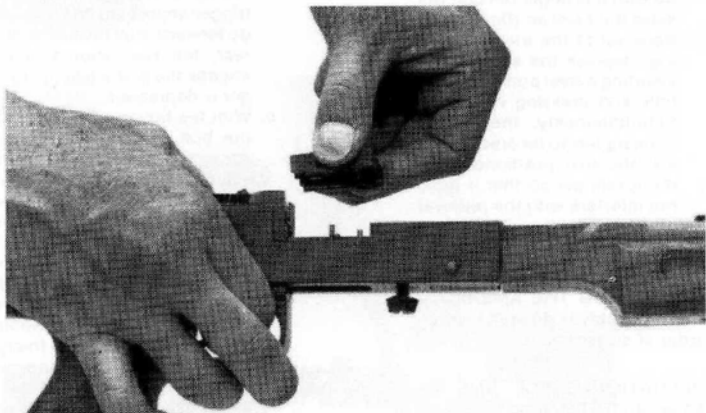

Figure 4
- d. Remove feed block by placing thumb and forefinger on either side of the feed block and pulling up away from receiver (figure 4).